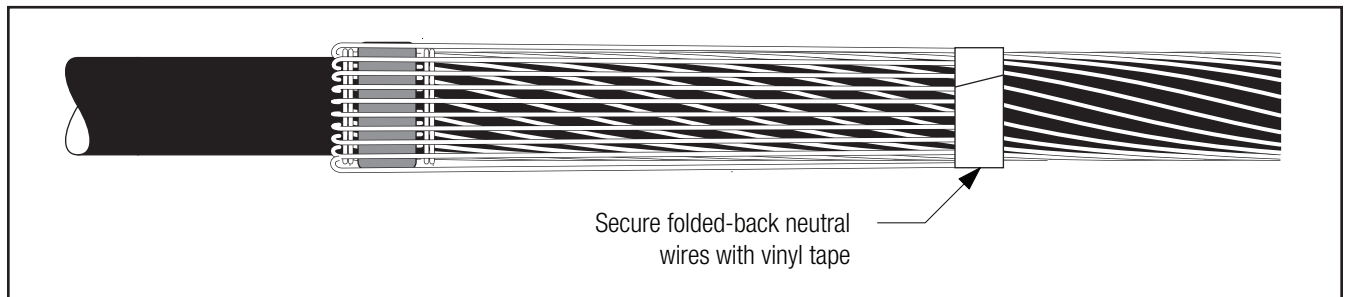

Figure 6
- 2.4.4 Fold neutrals over mastic seal and temporarily secure ends with vinyl tape (Figure 6).